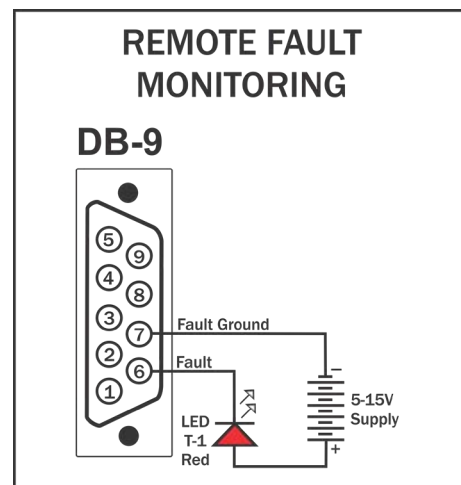

Figure 6.5 – Remote Fault Monitor Application Wiring on DB-9 Control Port
**Method:** Supply 5-15VDC to an LED between Pin 7 (Fault Ground) and Pin 6 (Fault). See **Figure 6.5**.